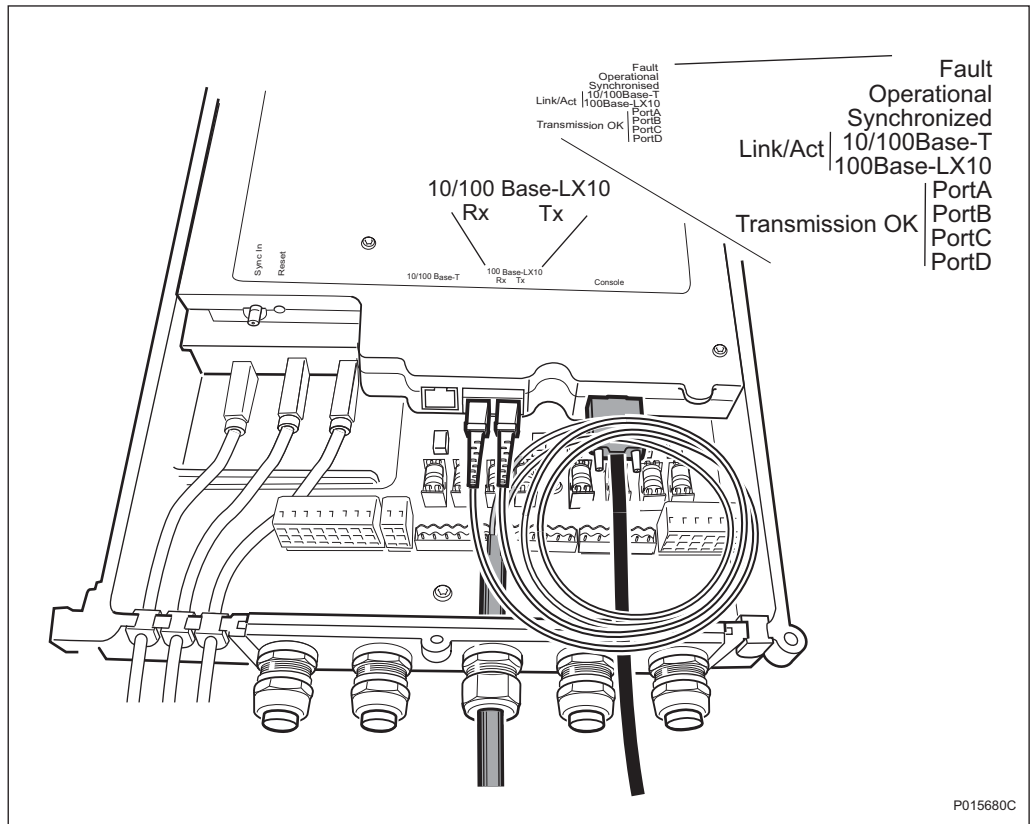
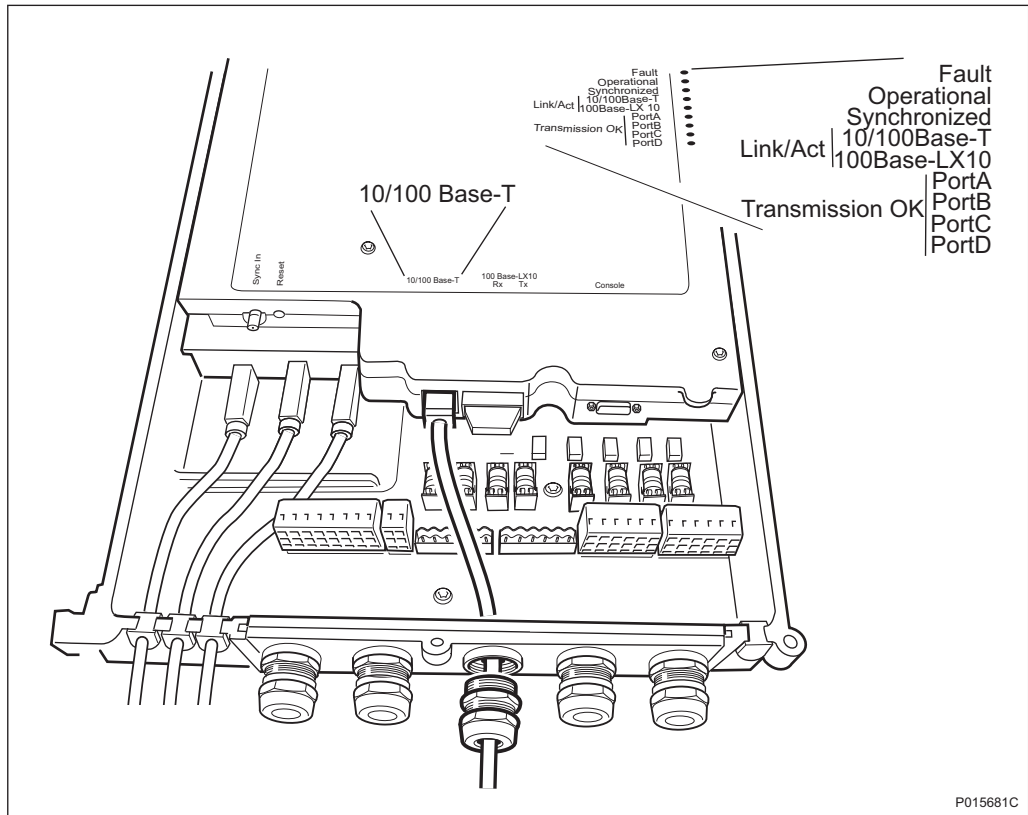

Figure 64 10/100 Base-LX10 Optical Ethernet Cable Connection
Figure 65 10/100 Base-T Electrical Ethernet Cable Connection
1. Connect the correct Ethernet cable for IP transmission. *See figures below.* Optical Ethernet connections are *shown in Figure 64 on page 155*, and electrical Ethernet connections are *shown in Figure 65 on page 156*.